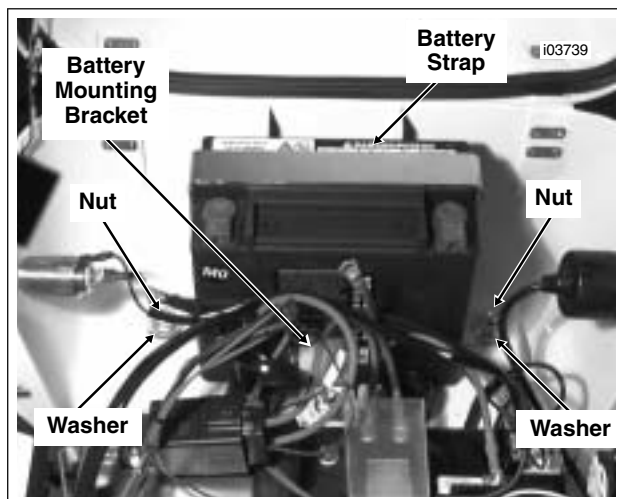

Figure 8-40. Install Battery Mounting Bracket and Battery
20. See Figure 8-40. Loosely assemble battery mounting bracket with bolt, washers and nut obtained from kit.